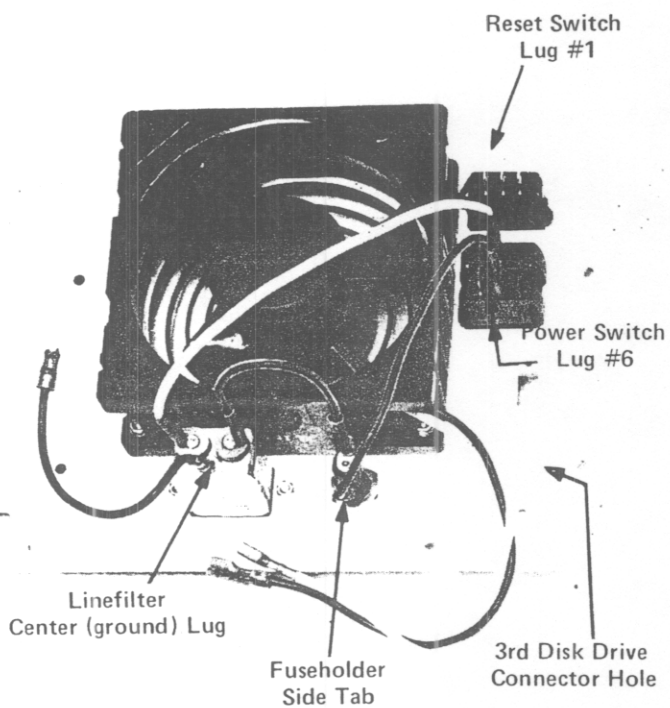

Figure 1P. View of Inside of Back Panel after Assembly Step P11.
- P2. Mount the fan and fan guard to the back panel so that the following order results from outside to inside: 6-32x7/8" machine screw heads, fan guard, back panel, fan, #6 lock washers and #6 nuts. The outside of the back panel will be the side away from you when the large fan opening and two rectangular switch holes are on your upper right. See figure 1P. Orient the fan so the power connections are on the lower right and the airflow arrow points outward.
- P3. Mount the fuseholder to the outside of the back panel in the position and orientation as shown in figure 1P. Orient the side lug away from the fan, and fasten with the large fuseholder nut. Insert the 5 amp fuse into the fuseholder and twist on the fuseholder cap.
- P4. Install the line filter to the outside of the back panel in the position and orientation shown in figure 1P. The following order should result from outside to inside: 6-32x1/2" machine screw heads, line filter, back panel, lock washers, and nuts.
- P11. Slip the B ends of wires #7 and #8 onto the two fan lugs. The fan lugs may have to be bent slightly in order to slip on the wires. Twist the wires together and leave the A ends unattached for now. Check your assembly to this point with figure 1P for correctness. Set the back panel aside for now.